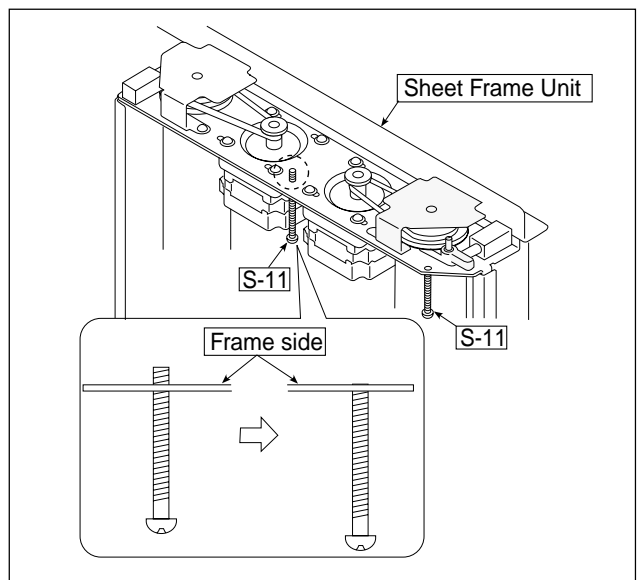

Fig. 11
2. As shown in Figure 11, loosen the "S-11" (two) screws to the frame surface and remove the Sheet Frame Unit.
- \* The operation in Figures 11 to 14 is performed with the Sheet Frame Unit put upside down.